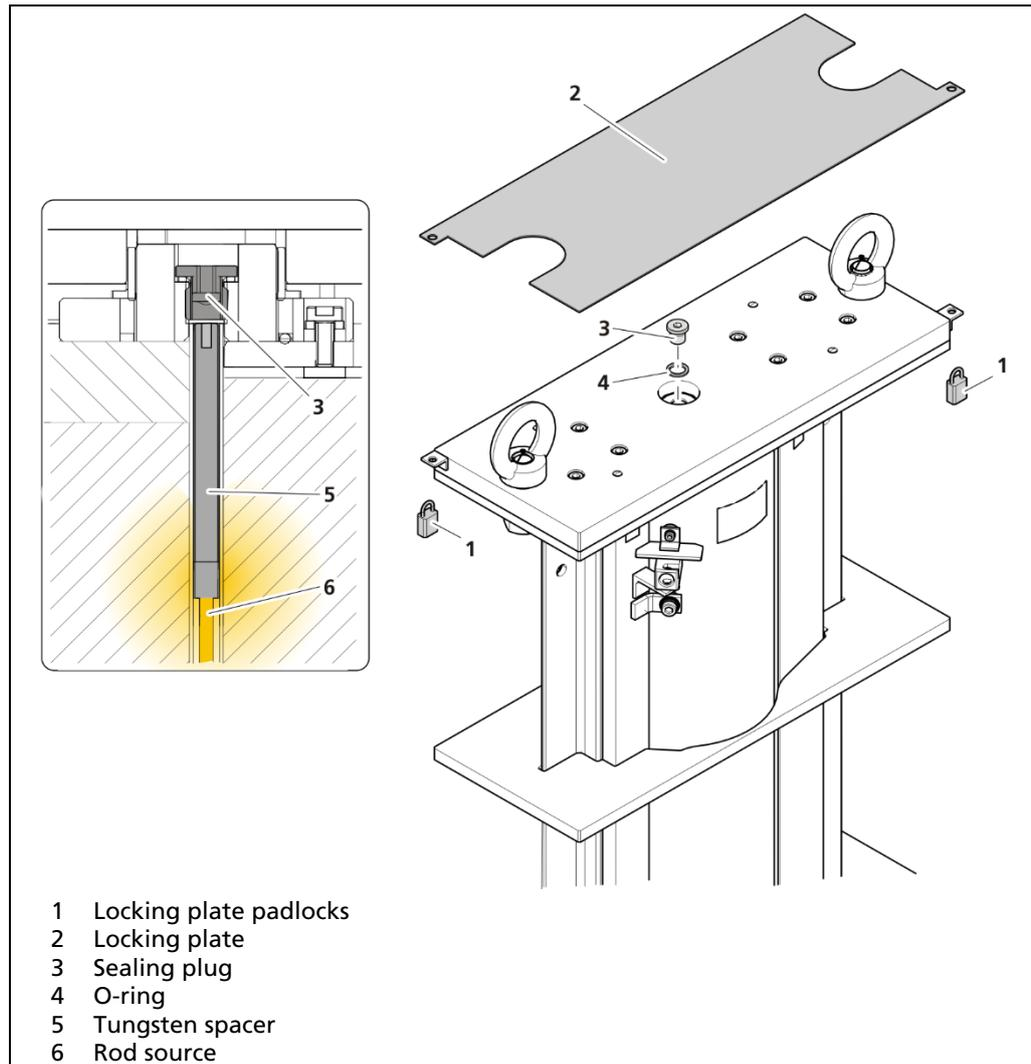

Fig. 12 Make the source accessible
2. Remove the locking plate padlocks (Fig. 12, item 1) and remove the locking plate (Fig. 12, item 2).
- ▶ You can now see the sealing plug (Fig. 12, item 3).
3. Unscrew the screwed sealing plug (Fig. 12, item 3).
4. Remove the O-ring (Fig. 12, item 4).